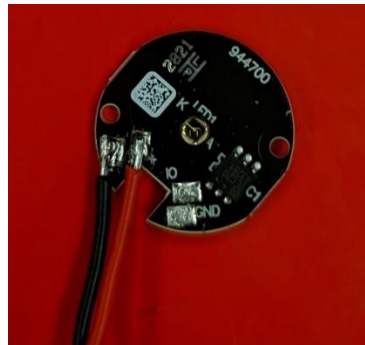

Figure 1 LED's wire connection.
1. Connect cables to LED cathode and anode pads as shown in Figure 1. Be patient with soldering the wires as the LED PCBA takes long to heat up (~ 30 sec). It is helpful to use high temperature and bigger soldering tips for this particular step.